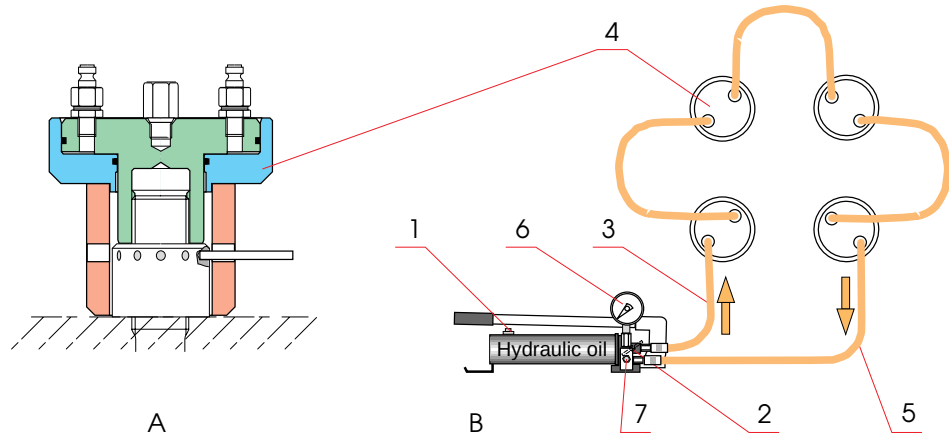

Fig 07-23
- During the filling of the container of the high pressure pump it is recommendable to couple the set according to scheme B, Fig 07-23. Before filling, open the release valve (2) and empty the cylinders (4) by pressing the piston and cylinder together. After that, drain the oil and re-fill through the filling plug (1).
- Check the pressure gauge of the hydraulic tool set regularly. For this purpose a comparison pressure gauge is delivered. This pressure gauge can be connected to the plug hole (7), the outlet hose of the pump being connected direct to the pressure gauges.
- 1 Attach distance sleeves and hydraulic cylinders** according to Fig 07-23 A. Screw on cylinders by hand.
- 2 Connect the hoses to the pump and cylinders** according to scheme Fig 07-23 B. Open the release valve (2) and screw cylinders in clockwise direction to expel possible oil.